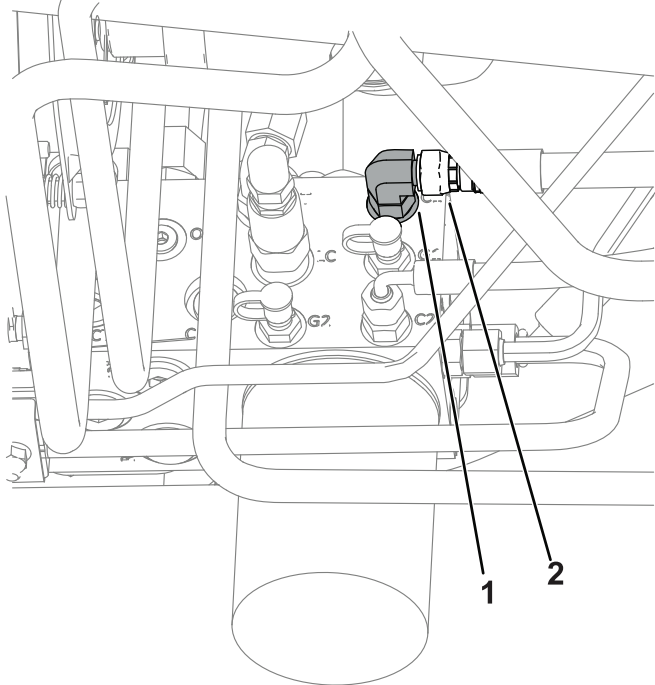

Figure 6
- Remove the hose connection from the fitting in port C1 (Figure 6).